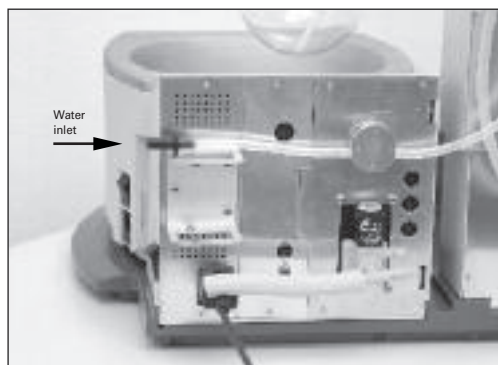
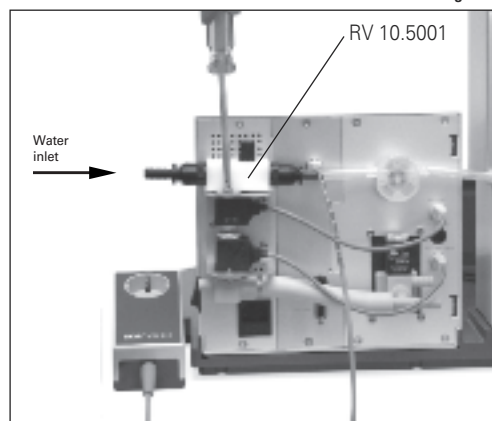

Fig. 16a
Fig. 16b
- ☞ Connect the water inlet to the water supply (Figure 16a; Figure 16b with optional RV 10.5001 water regulator valve). Please refer to the technical specifications relating to the water supply. The RV 10.5001 water regulator valve is not suitable for use on the condenser unit because it would reduce the flow rate too greatly.